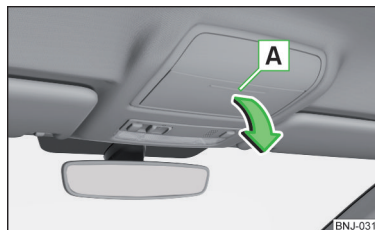

Fig. 87
- ▶ To **open**, press on the outer edge of the glasses compartment in area **A**. The compartment folds in the direction of the arrow » Fig. 87.